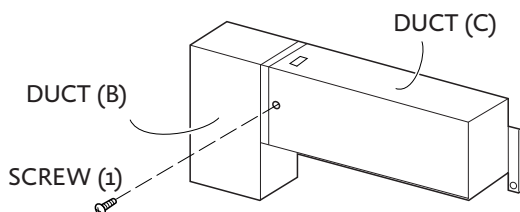

Figure 2
A. Insert the edge of DUCT (B) into the hold lip of DUCT (C). Secure together by using a SCREW (I) provided in the kit. See Figure 2.